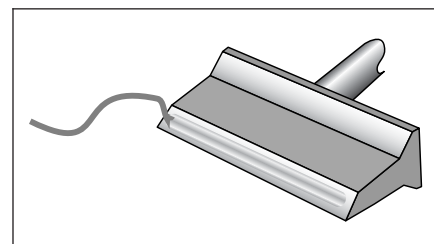

Figure 2 Tin Tip
6. Place an even bead of solder along the full length of the beveled edge. (See Figure 2.)